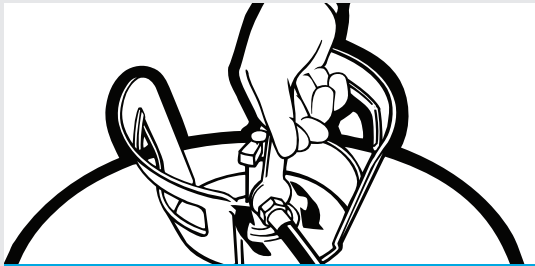

Figure 2.
3. Apply a coating of petroleum jelly to the inside face of the INSTA-FLO™ Dispenser. This makes cleaning of the dispenser face much easier and extends the effective life of the INSTA-FLO™ Dispenser. (See figure 2)